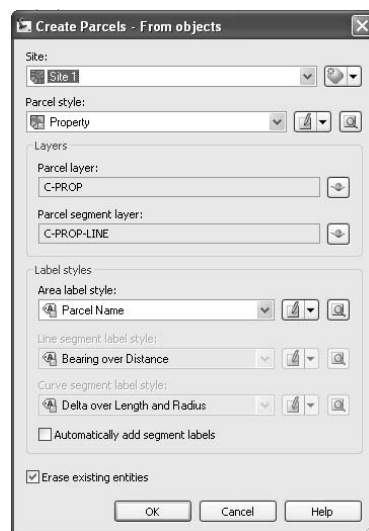

Figure 6.2
4. Press **↵**. The **Create Parcels - From Objects** dialog will appear. Confirm that the **Parcel Style** is set to **Property**, the **Area label style** is set to **Parcel Name**, and the **Erase Existing Entities** box is checked, as shown in Figure 6.2. Click **OK**. Note that a parcel called **Property: 1** is formed.